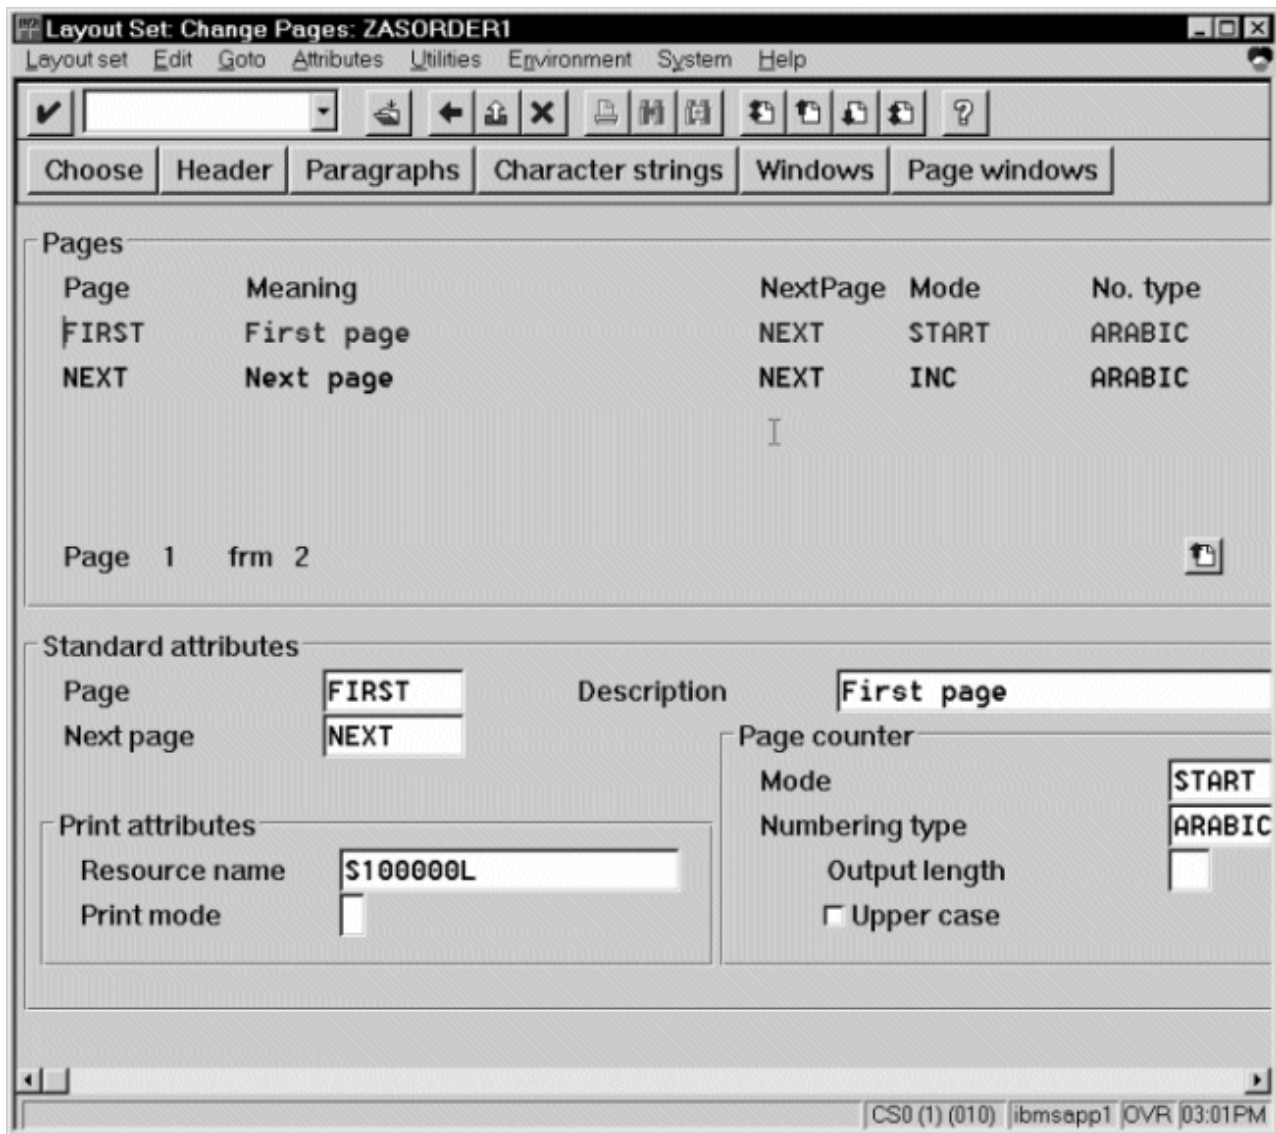

Figure 56. Layout Set Change Pages window, First page
- From the first page of the job, double-click so that it is highlighted and fill in the **Resource Name** field (under the **Print Attributes** pane) as shown in Figure 56: